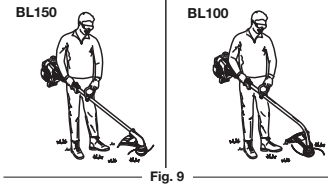

Fig. 9
- While holding the unit in the operating position (Fig. 9), position the D-handle to the location that provides you the best grip.
Before operating the unit, stand in the operating position (Fig. 9). Check for the following: